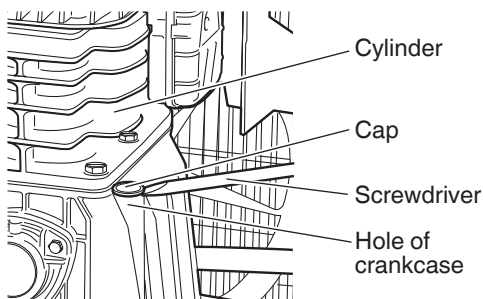

Fig. 2
- B) Use a screwdriver or similar tool to remove the cap on the lower part of the cylinder. (Fig. 2)